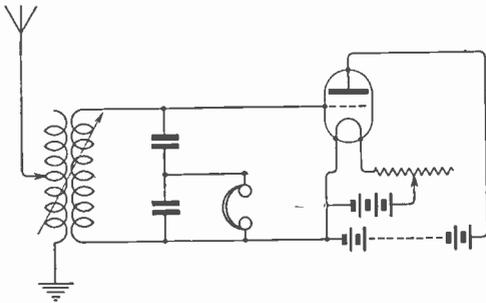

Fig. 3.
(1) The circuit appears to be intended for the Armstrong regenerative circuit, but is not correct. The correct arrangement of this circuit would be as in diagram (Fig. 3). (2) Yes, with a carefully adjusted reaction circuit, but for good readable speech two or more valves is desirable. (3) This is probably due to the circuit arrangement. Connect the aerial side of the telephones as shown in your circuit to the earth side of the blocking condenser.